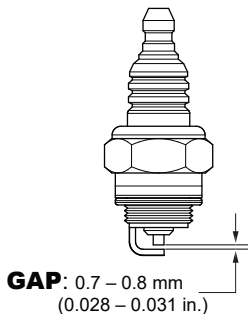

Figure 33. Spark Plug Gap
3. Remove and clean the spark plug (Figure 33), then adjust the spark plug gap to 0.7–0.8 mm (0.028–0.031 inch). This unit has electronic ignition, which requires no adjustments.